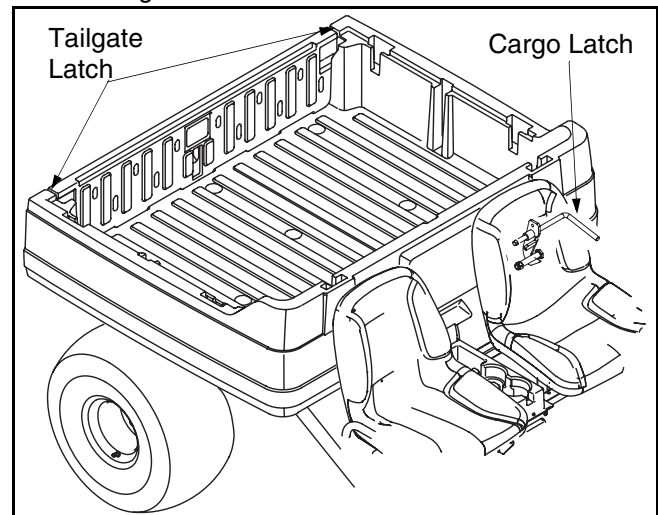

Figure 12
- Empty cargo by hand and unhook cargo box latch located in front of box. See Figure 12.
- Open tailgate latch. See Figure 12.